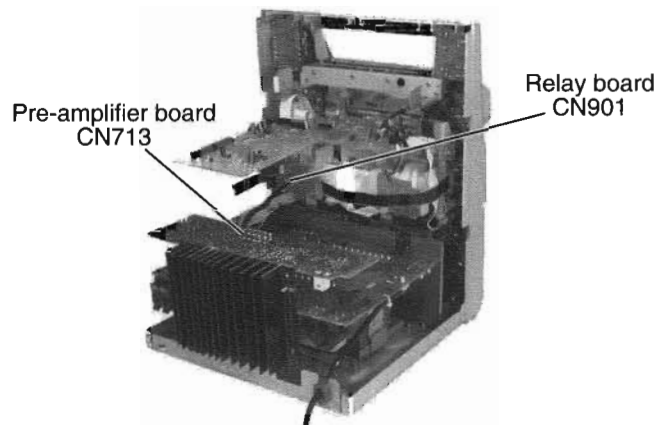

Fig.27
■ **Removing the pre-amplifier board / heat sink (See Fig.27 to 29)**